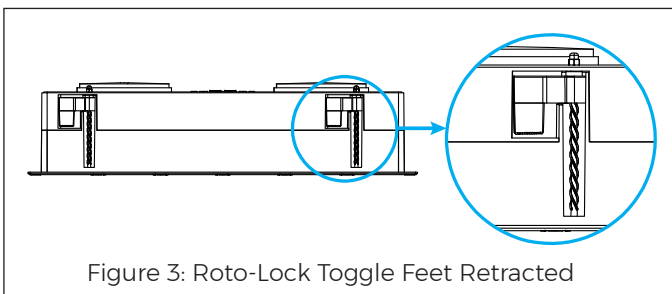

Figure 3: Roto-Lock Toggle Feet Retracted
- Make sure all the Roto-Lock toggle feet are retracted so that the speaker can fit within the mounting hole (see Figure 3).